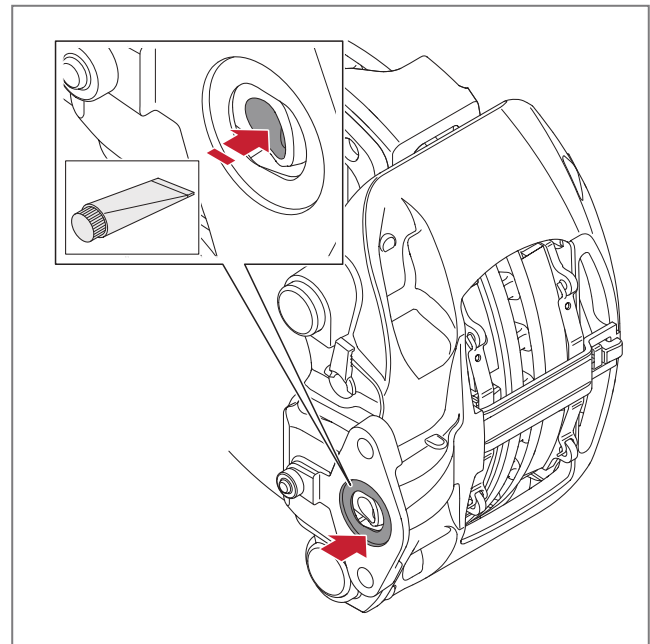

Fig. 45 - Inspection before fitting the brake chamber
3. Check that the mating surface of the chamber with the brake calliper housing and the mating surface on the brake calliper housing is free from dirt, moisture and corrosion, see ► Fig. 45. Ensure that the brake chamber seal is in the correct position and not damaged.